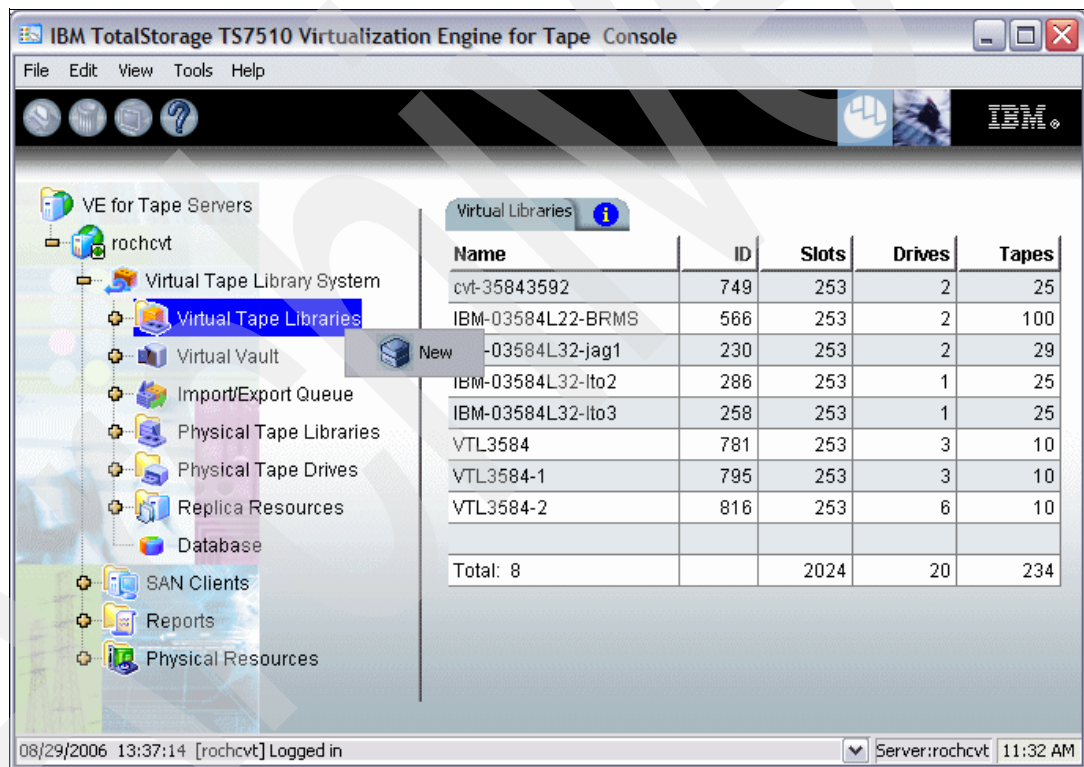

Figure 5-34 Starting to create a new virtual library
1. As shown in Figure 5-34, right-click the **Virtual Tape Library System** icon and select **New**. This starts the Creating Virtual Tape Library Wizard.